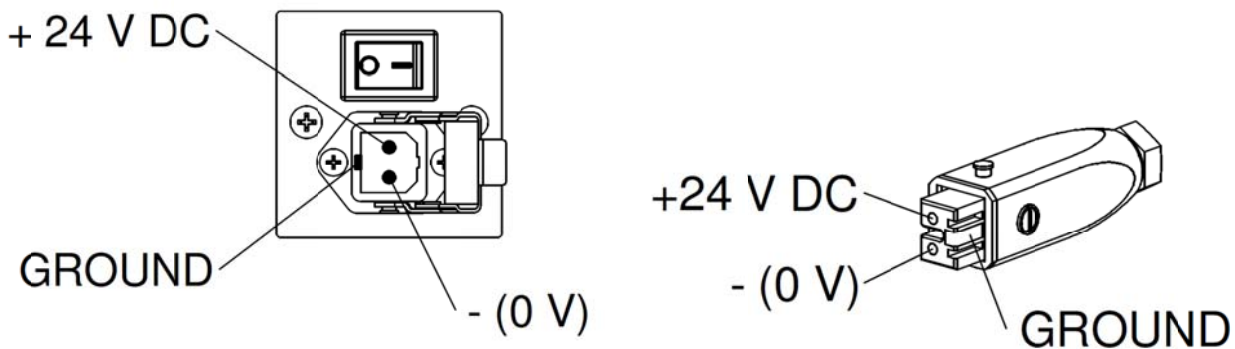

Figure 5, 24 V Input Manager IQ Easy
- Connect the 24 V DC power connector as shown in figure 5.
- Figure 5, 1-5 tabs, depending on the number of Managers IQ Easy and Extensions IQ Easy,